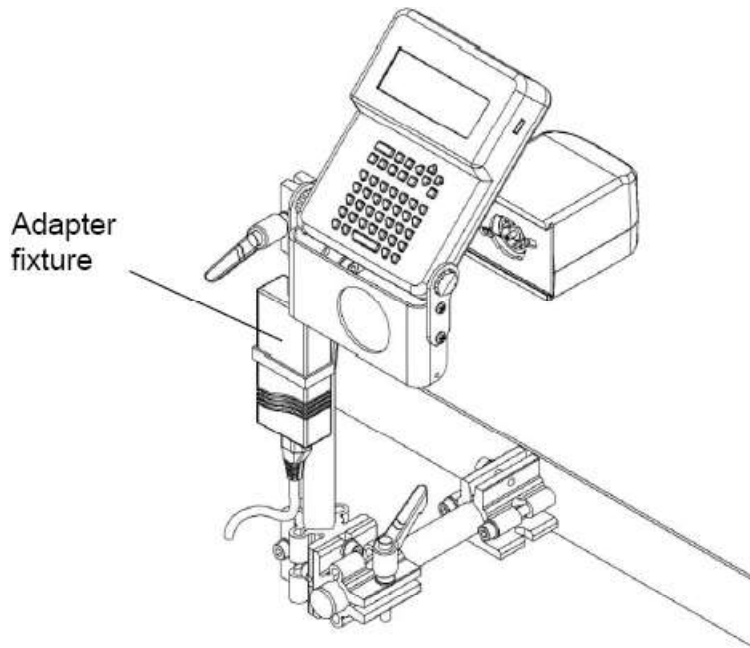

Figure 3-15: Adapter Fixture
**Note:** Before printing, fix the power supply adapter with the cable tie provided by MSSC, or the customized brace, as shown in Figure 3-15 on page 3-12. This holds the cord in position and reduces the strain on the power cord connector.